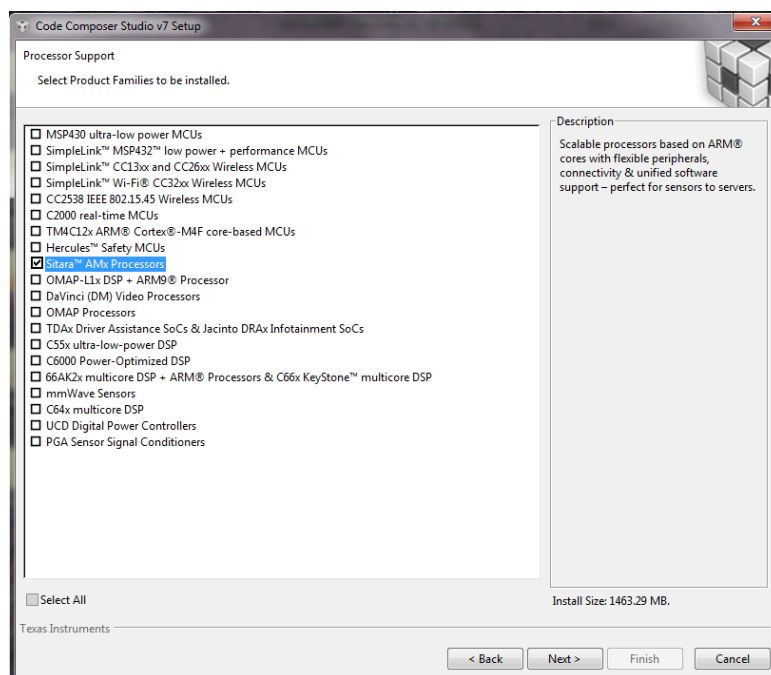

Figure 67 CCS Product family selection
- Midway through the installation process, the installer will ask you to **Select Product Families to be installed**. Choose **Sitara** as shown in Figure 67 and click next (if you plan to use CCS for other TI processors, you should select to install those now; else you will have to completely re-install CCS if you need to add support for other processors).